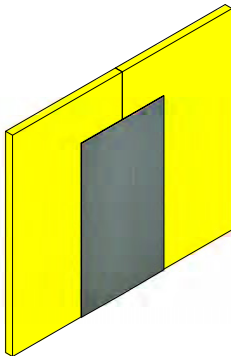

Figure 4
3. Apply a generous receiving coat of MasterSeal AWB 660 or MasterSeal AWB 665 or MasterSeal AWB 660 I sufficient to completely saturate MasterSeal AWB 971 FIB and out 3 to 4 inches on each side of the sheathing joint. (See Figure 4).